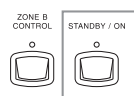

Figure 1
1. Press the STANDBY/ON Push-button on the Front Panel or press the  (Power) Push-button on the Remote Control to switch On the MX150. Refer to figures 1 and 7. The Front Panel Information Display will first indicate "McIntosh MX150" followed by "Initializing, Please wait..." and then the last source selected and volume level setting. Refer to figures 2, 3 and 4. The LED above the Front Panel